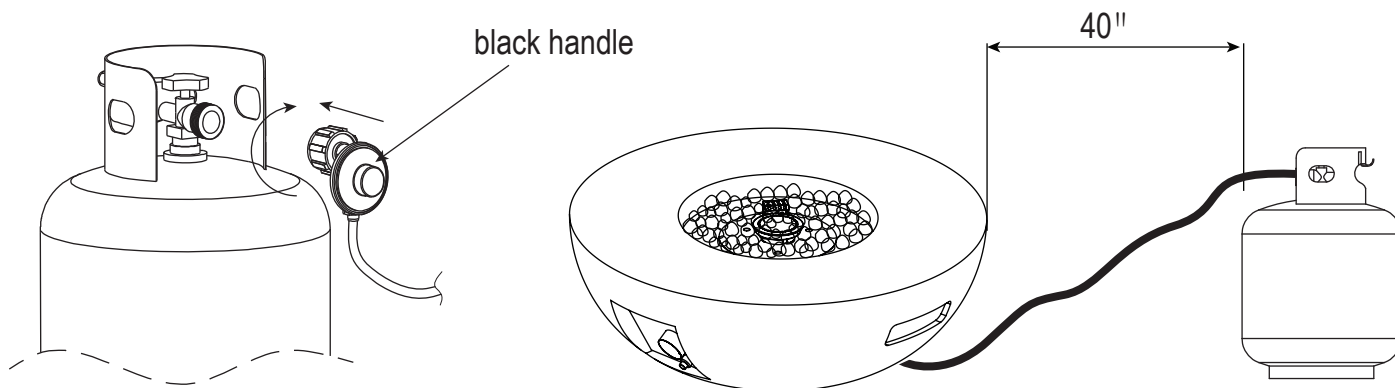

Figure 3
3. Connect the regulator, screw the black handle clockwise to tighten, turn the black handle counterclockwise to remove. The hose must not turn upside. The knob on the control panel is turned all the way to the "OFF" position when the fireplace is NOT in use (See Figure 3).